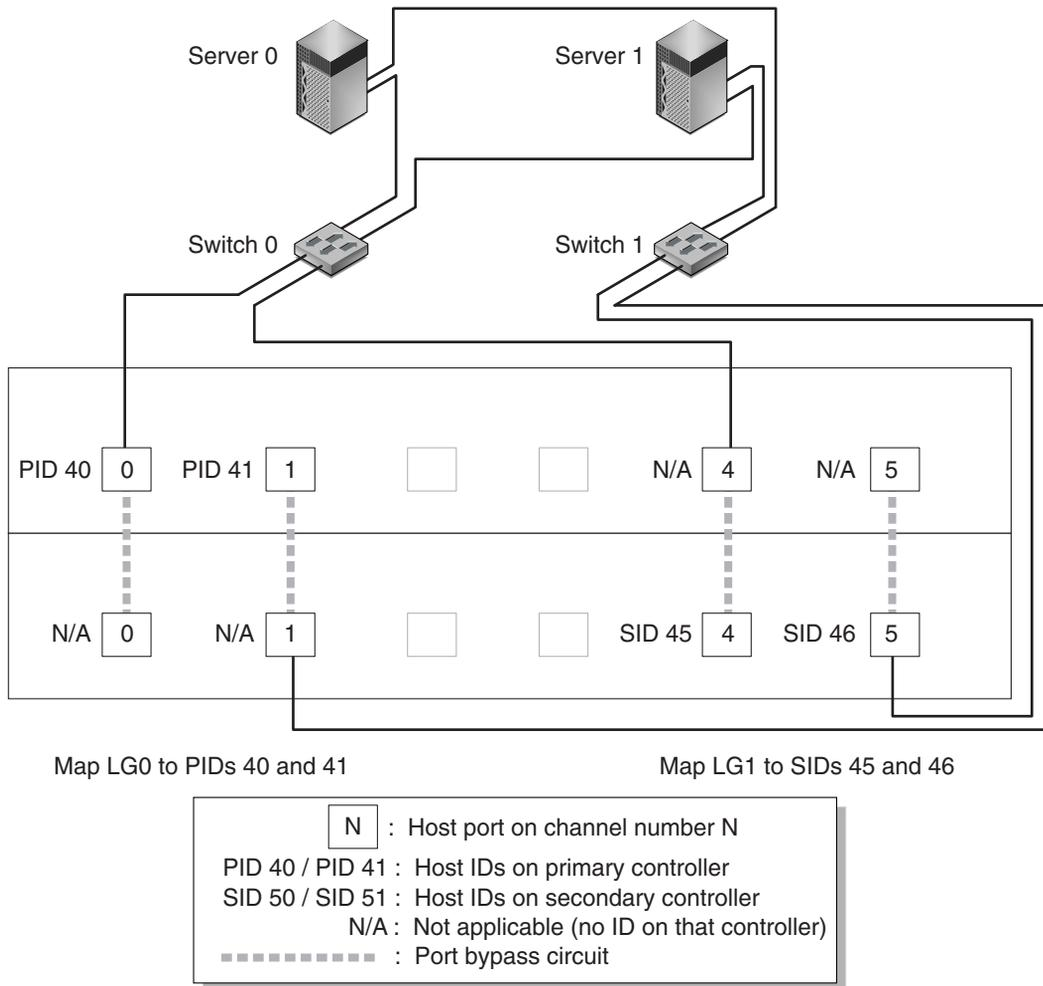
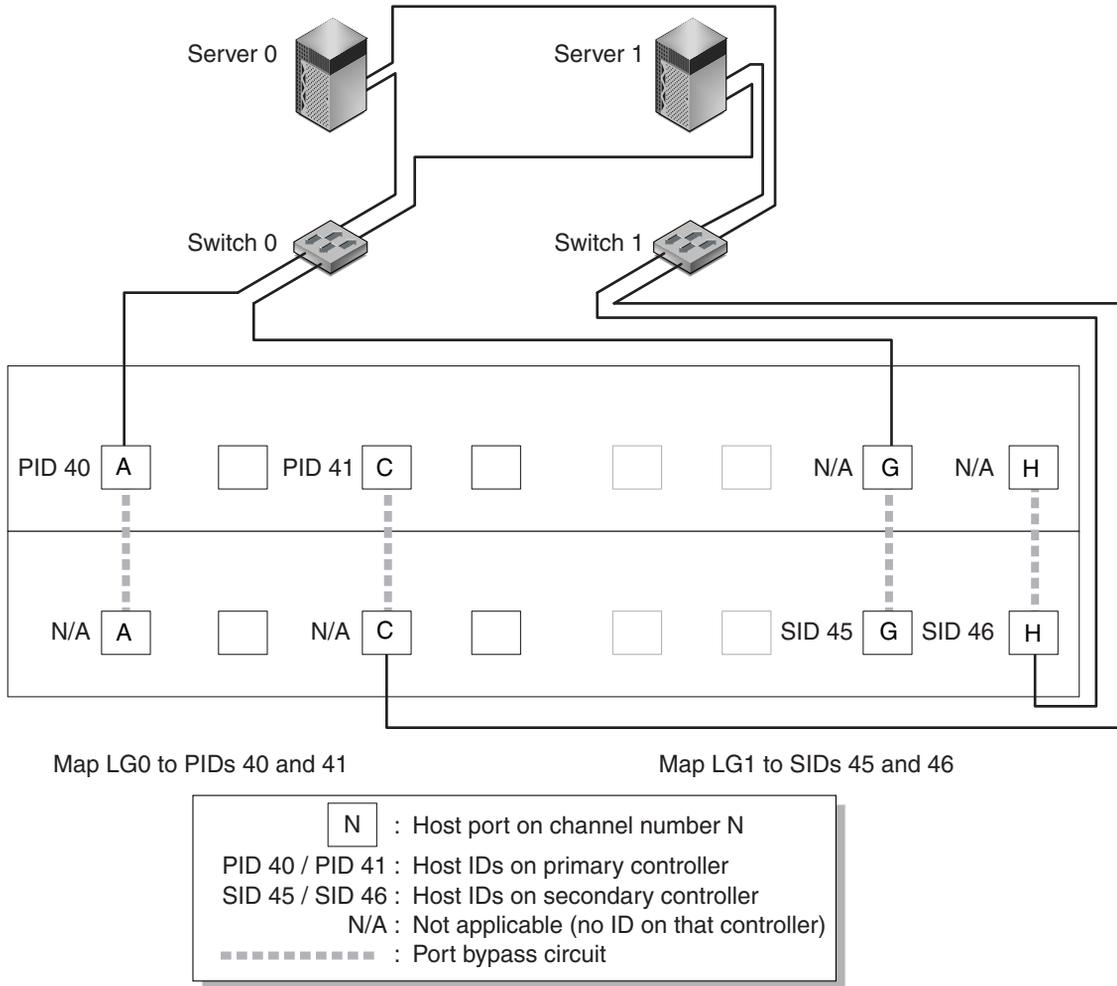

FIGURE 5-1 A Point-to-Point Configuration with a Dual-Controller Sun StorEdge 3510 FC Array and Two Switches
FIGURE 5-2 A Point-to-Point Configuration With a Dual-Controller Sun StorEdge 3511 SATA Array and Two Switches
- If you have two switches and set up multipathing (to keep all logical drive connections operational for any switch failure or the removal of any I/O controller module), ensure that each logical drive is mapped to two ports, one on each I/O controller module, and on two channels. The cables from the two ports mapped to each logical drive must be cabled to two separate switches. See FIGURE 5-1 and FIGURE 5-2 for examples of this configuration.
FIGURE 5-1 and FIGURE 5-2 show the channel numbers (0, 1, 4, and 5) of each host port and the host ID for each channel. N/A means that the port does not have a second ID assignment. The primary controller is the top I/O controller module, and the secondary controller is the bottom I/O controller module.
In FIGURE 5-1 and FIGURE 5-2, with multipathing software to reroute the data paths, each logical drive remains fully operational when the following conditions occur:
TABLE 5-1 summarizes the primary and secondary host IDs assigned to logical drives 0 and 1, as shown in FIGURE 5-1 and FIGURE 5-2.
Perform the following steps to set up a typical point-to-point SAN configuration based on FIGURE 5-1 and FIGURE 5-2.